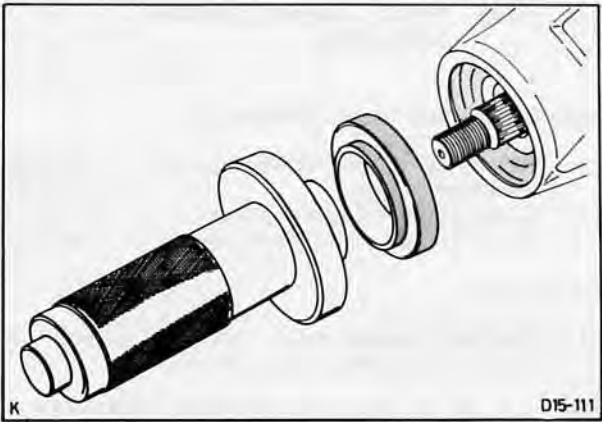

Fig. 132. Fit oil seal with special tool no. 15-047B
7. Install new oil seal with Special Tool and lightly grease sealing lips, Fig. 132.